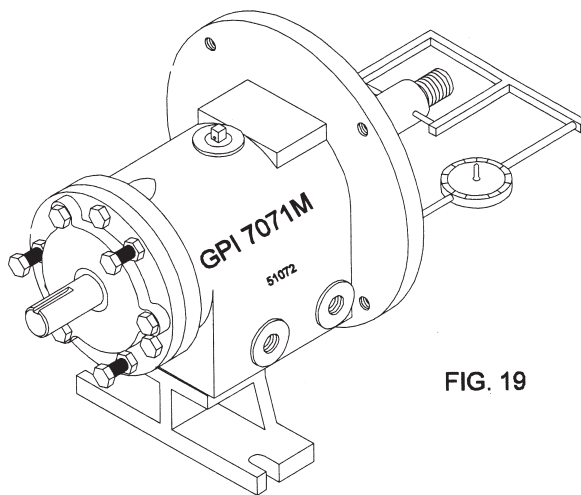

FIG. 19
4. Check bearing frame face runout. Rotate shaft as indicator rides along face of frame for one turn. If reading varies more than .001 in. disassemble frame and determine cause. (Fig. 19)